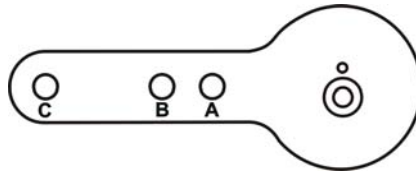

Figure 9 Lever for Masoneilan Model 87/88 Multispring Actuator
3. Select mounting hole A, B, C or D for the stroke of the valve. For example, hole B is shown in Figure 9 on page 32 for a size 10 actuator with 1.0" stroke. Unless otherwise specified, the SVI II ESD mounting assumes that the actuator is in the normal upright position. The mounting hole in the slotted opening of the mounting bracket must be left when facing the actuator, with the actuator in the upright position.
5. Attach the right hand threaded rod end to the SVI II ESD lever using a 1/4 - 20 x 1" cap screw and nut as shown. The lever hole position to be used depends upon the specific valve stroke. Refer to Figure 9 on page 32 and the Reciprocating Valve Linkage Selection, Table 3 on page 32.